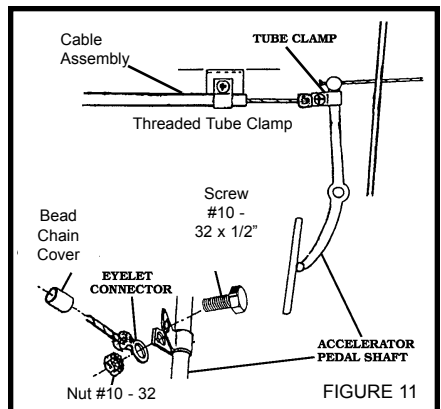

FIGURE 11
4. Put **SCREW #10-32 x 1/2** through the holes in the **TUBE CLAMP**. Slide the **EYELET CONNECTOR** over the screw. Thread **NUT #10-32** onto the screw and tighten. **Figure 11**